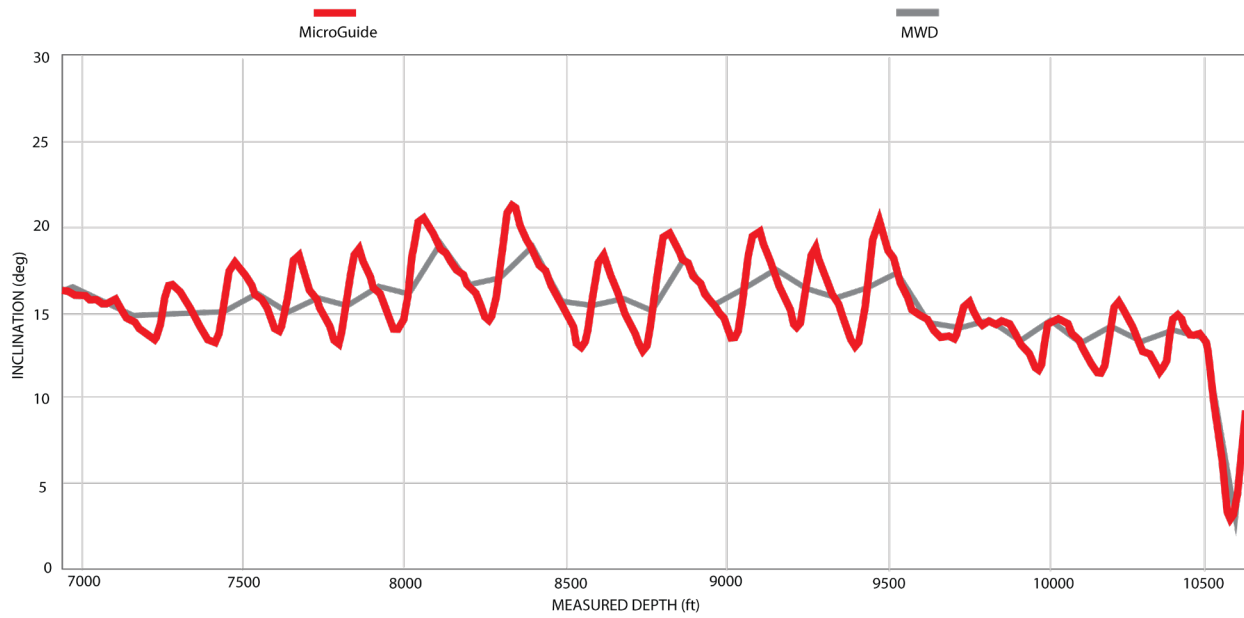

Fig. 1—The MicroGuide logs revealed sinusoidal buckling throughout the section that was otherwise invisible with standard MWD data.
- Based on the MicroGuide data, we determined that there was a section of sinusoidal buckling from approximately 7,000 to 10,500 ft (Fig. 1). As the MWD data showed no issues, the operator would not been aware of this without high-resolution tortuosity data.